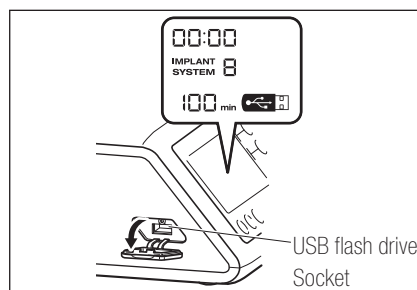

Fig.13
- 2) Completely insert the USB flash drive. The USB mark will appear on the LCD DISPLAY when USB flash drive is recognized by the device. (Fig.13)